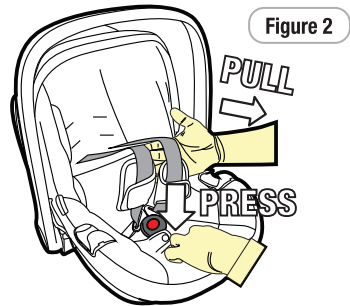

Figure 2
- Step 1:** To loosen the harness straps, Press the harness adjuster whilst pulling on both harness straps (refer Figure 2). Loosening the harness will allow the spreader plate to rise from under the restraint.